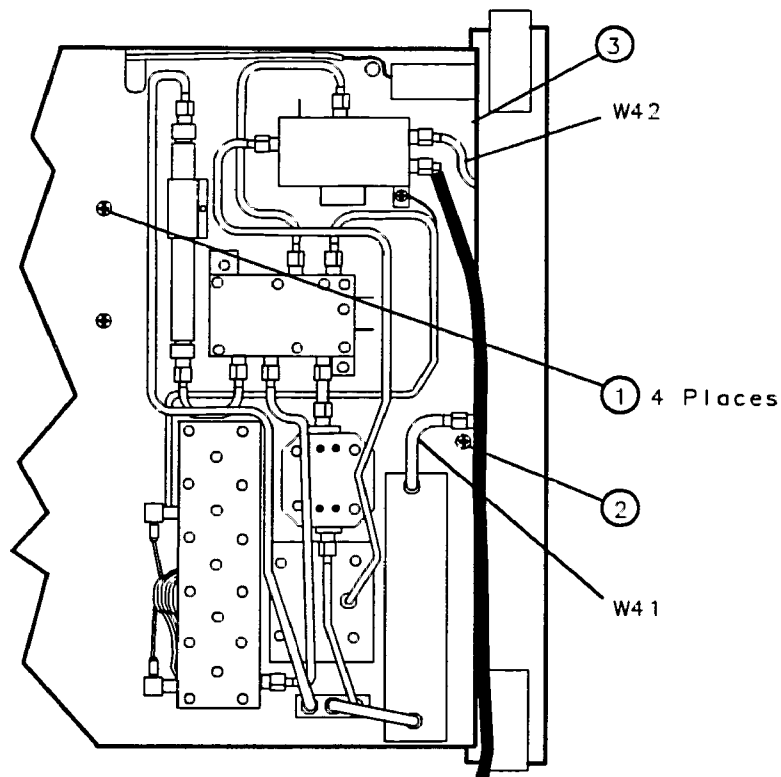

Figure 3-3. A9, A18, and Line-Switch Assembly Mounting Screws
10. Remove screw (2) securing the A9 Input Attenuator Assembly to the center support on the front frame. See Figure 3-3.
14. Remove screw (3) securing the line-switch assembly to the front frame. See Figure 3-3.
19. Loosen, but do not remove, four screws (1) (Figure 3-3) clamping A18 CRT Assembly.